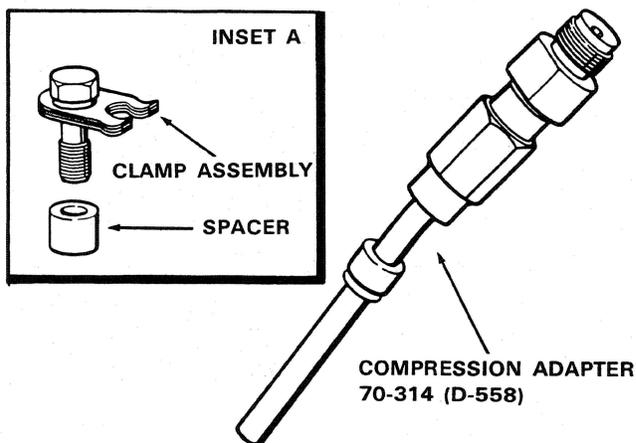
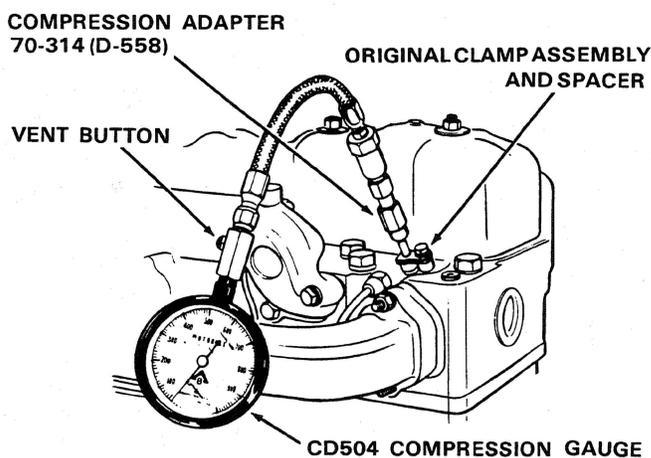

Figure 1
Figure 2
- Clean the injector bores of loose carbon and residue. Replace the compression seal in the injector bore of the cylinder to be checked and install a Bacharach 70-314 (D-558) Compression Gauge Adapter, Figure 1. Secure with an original injector clamp assembly and spacer. Figure 1, Inset A. Tighten bolt to 20 foot pounds. Connect Case No. CD-504 Compression Gauge to the adapter, Figure 2.
NOTE Take several compression readings on each cylinder. This is done by pressing the vent valve button, Figure 2, to relieve gauge pressure. When the button is released the gauge will again indicate compression pressure.